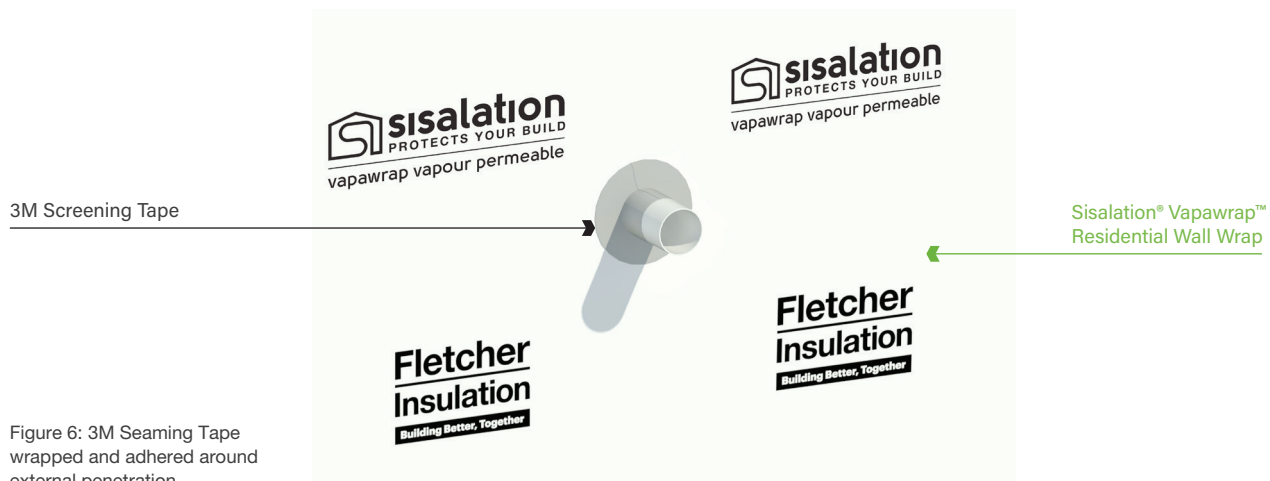

Figure 6: 3M Seaming Tape wrapped and adhered around external penetration.
- Adhesive tape, such as 3M Seaming Tape, shall be used to seal the penetration, maintaining an air and water tight seal around the service. Refer to Figure 6.